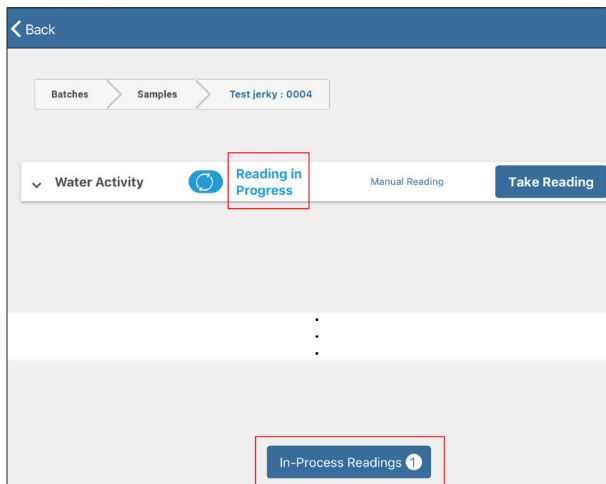

Figure 56 Reading in progress indicator
11. Select the **In-Progress Readings** button at the bottom of the Readings screen to see the In-Progress Readings dialog window with the reading status (Figure 56).